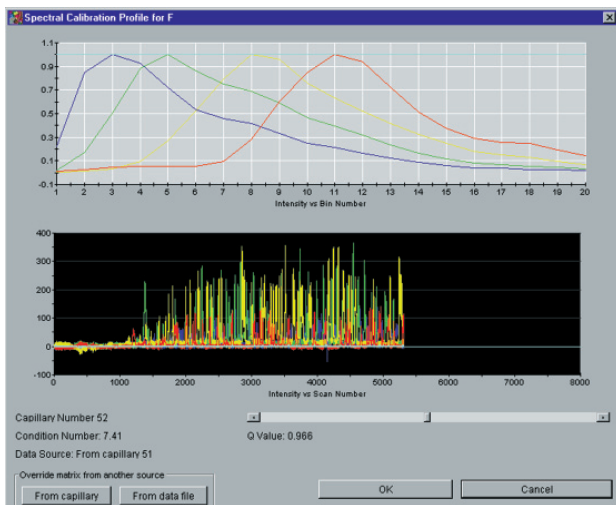

Fig 5. Spectral calibration profile for F using POP-5.
11. Examine the results for each cap and verify that the profile is similar to that shown in Figure 5.
11. Select **F** from the pull-down menu (**Important**). Click **OK**. This action opens the dialog window **Spectral Calibration Profile for F**. The fluorescence emission spectra for all four dyes in a particular capillary will be displayed as shown in Figure 5.
- Examine the results for each cap and verify that the profile is similar to that shown in Figure 5.